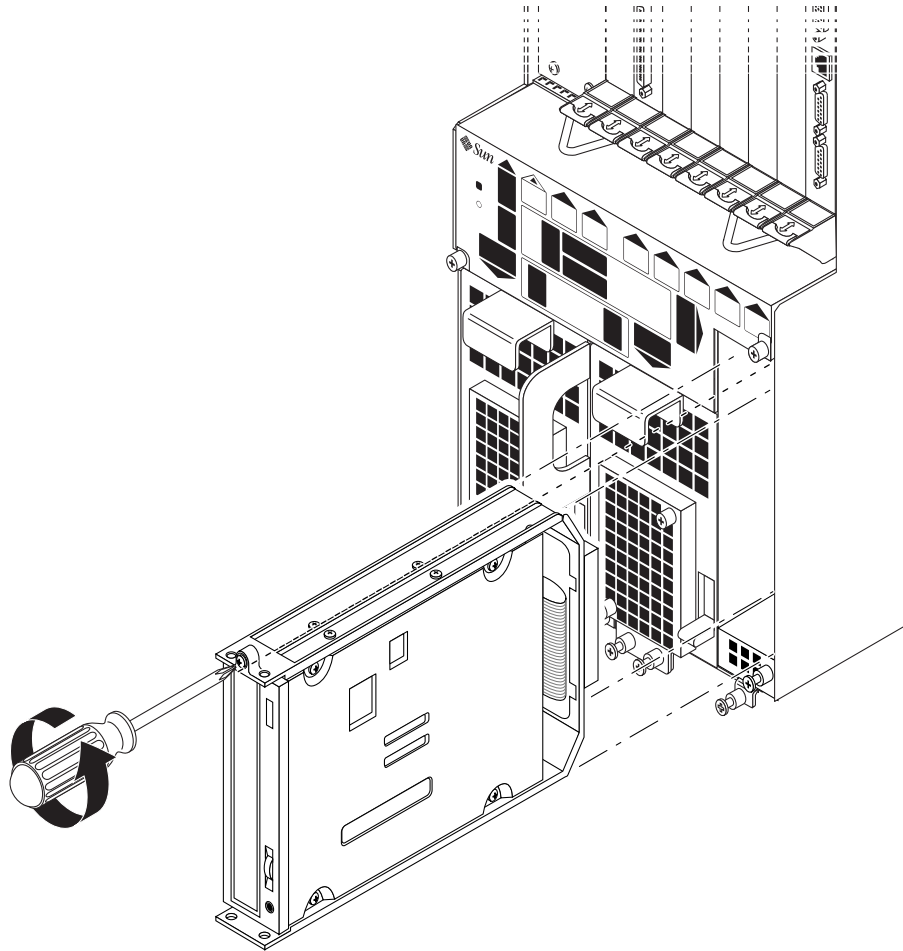

FIGURE 1 Removing the Removable Media Module from a Netra ct 800 Server
- 8. Pull the module from the system as shown in FIGURE 1 and place it on the electrostatic discharge mat.**